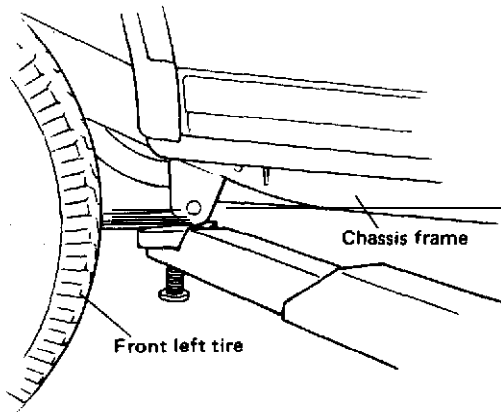

Fig. O-7 Front Support Location
5. Fig. O-7 and O-8 show how to lift the car by using a hoist.